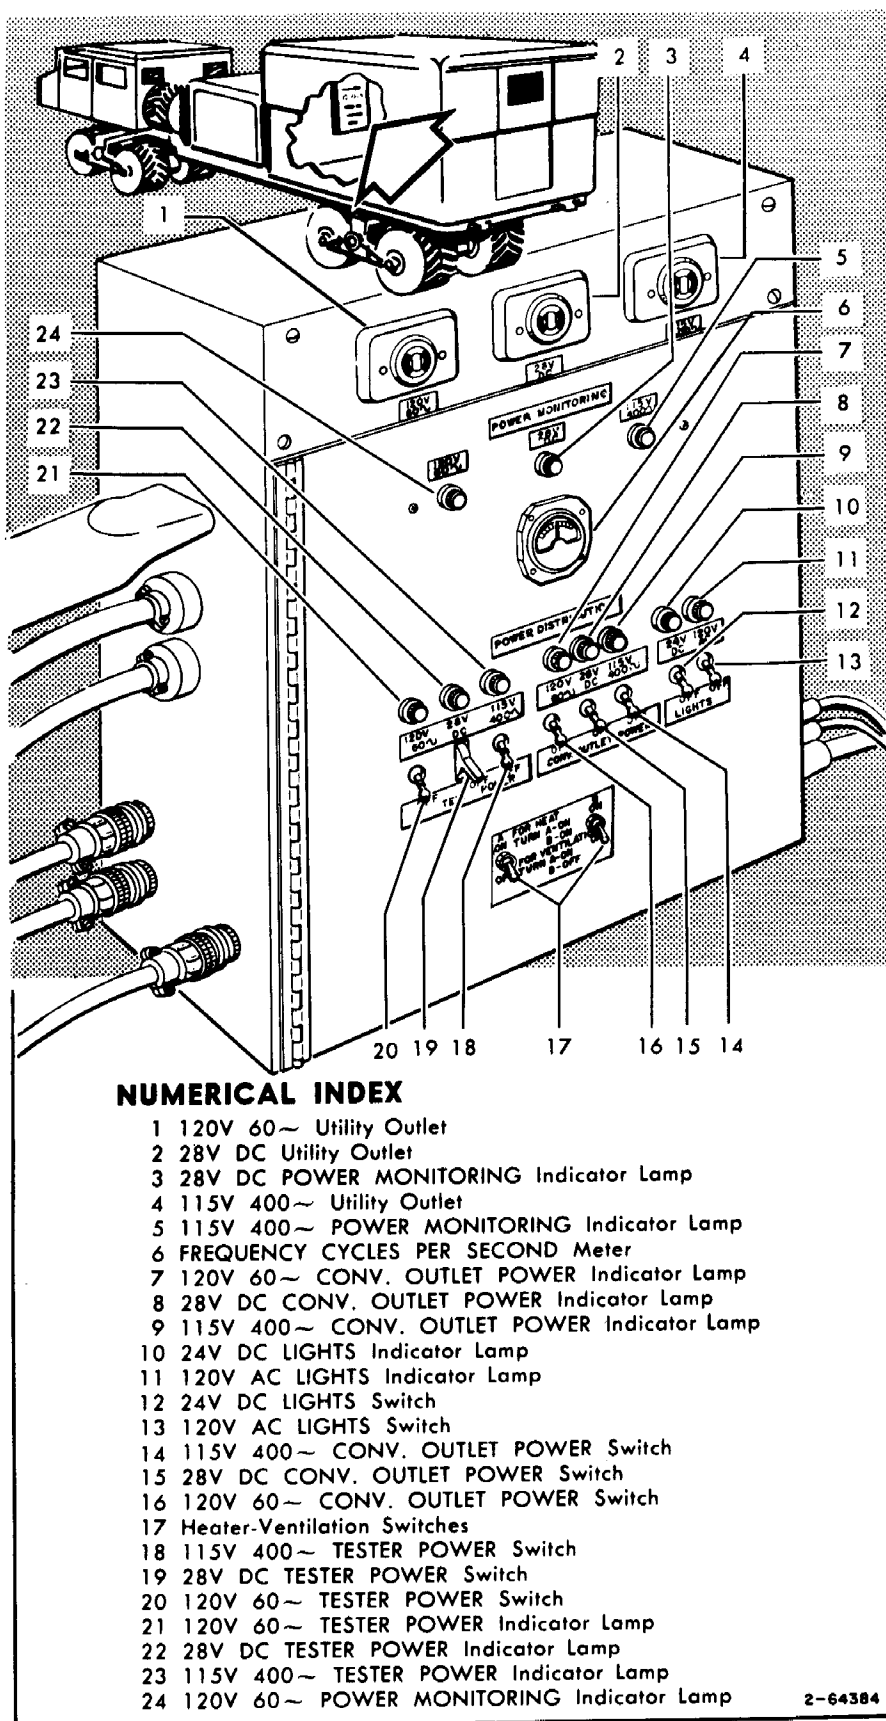

Figure 3-4. Power Monitoring and Distribution Box.
- a. 28 VDC POWER MONITORING indicator lamp (3, figure 3-4) on Power Monitoring and Distribution box must be on.
- b. 120V 60 POWER MONITORING indicator lamp (24) must be on.
- a. Insure that 28 VDC TESTER POWER switch (19, figure 3-4) on Power Monitoring and Distribution Box is ON.